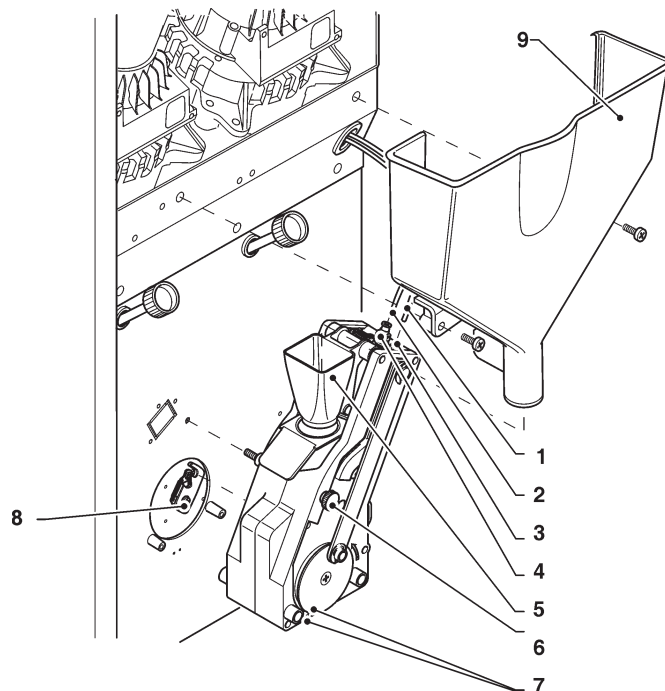

Fig. 28
- detach the teflon tube connecting the boiler from the upper piston and the tube for hydraulic operation of the piston by acting on coloured rings (see fig. 28);
- Disassemble the coffee funnel (see fig. 28);